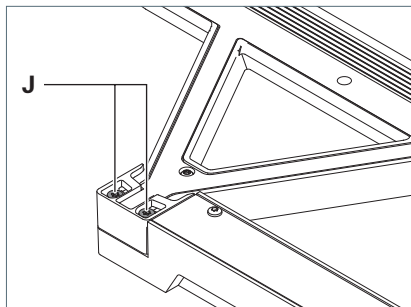

Fig. 19: Adjusting the luminaire head.
1. To lower the luminaire head, turn the screws **J** anti-clockwise, see Fig. 19.